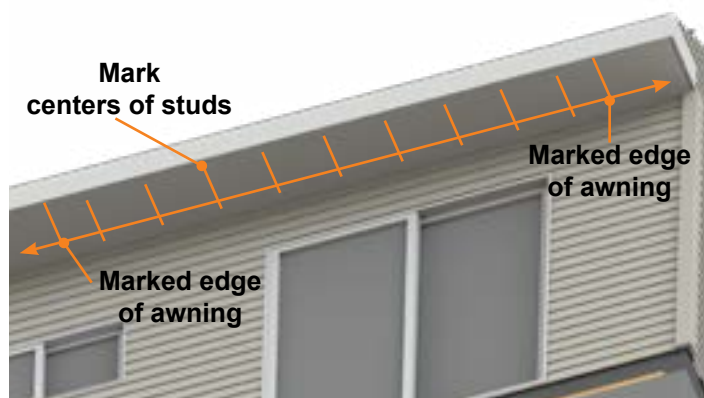

Fig.37
6. Using a stud finder, find the center of the studs along the entire length of the mounting line between the left and right sides of the awning. Mark each stud center with a non-permanent method of marking (Fig. 37).